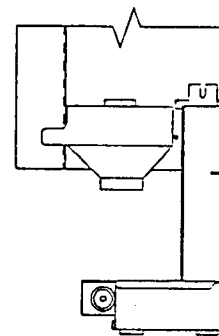

Figure 3
- C. On venders prior to 0001-3233CP, install the w/a Multi Change Chute in position, loosely attaching the Multi Change Chute to the access door, with the existing screw, through the top slotted hole of the chute. (See figure 3 on page A3.)